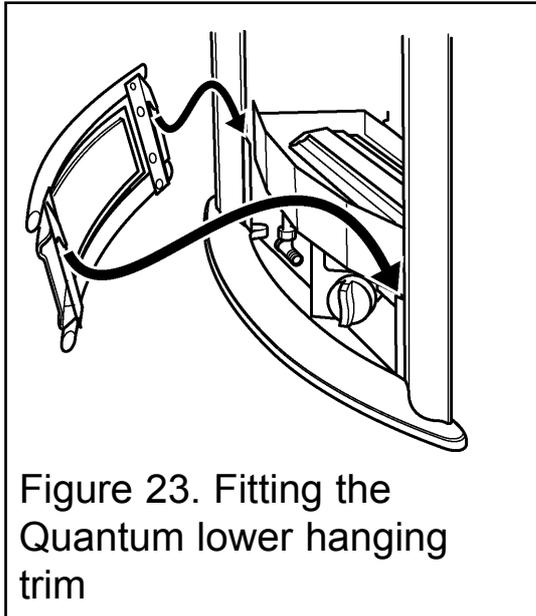

Figure 23. Fitting the Quantum lower hanging trim
3. Fit the lower hanging trim to the surround (Figure 23)